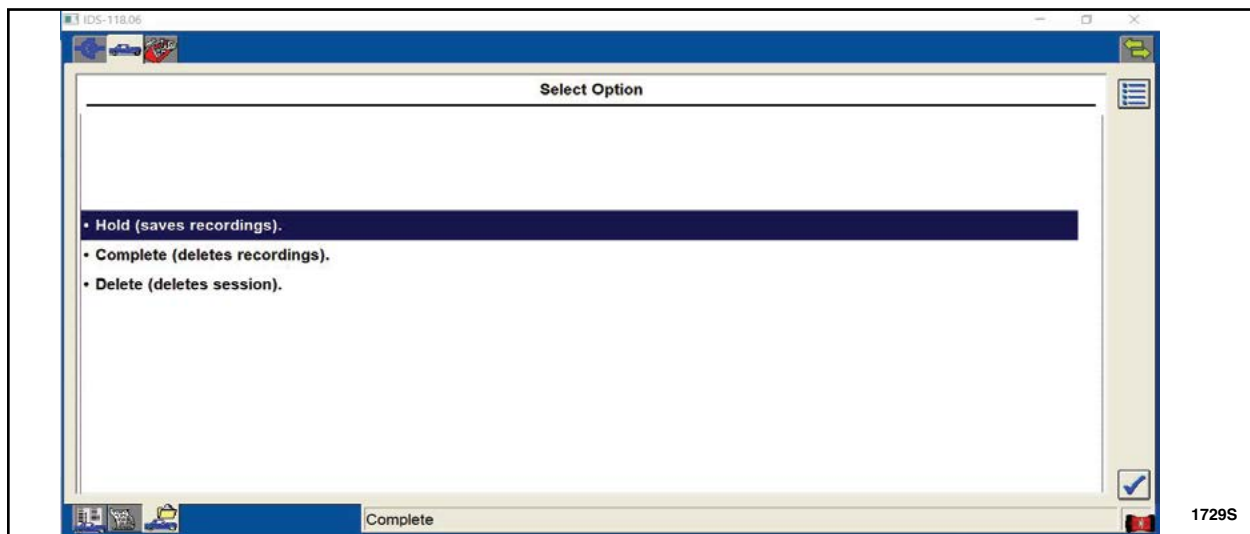

FIGURE 19
- One picture of the Vehicle Certification (VC) Label showing the Vehicle Identification Number (VIN).
- IDS Log file in PDF format. See Figure 19 and 20.